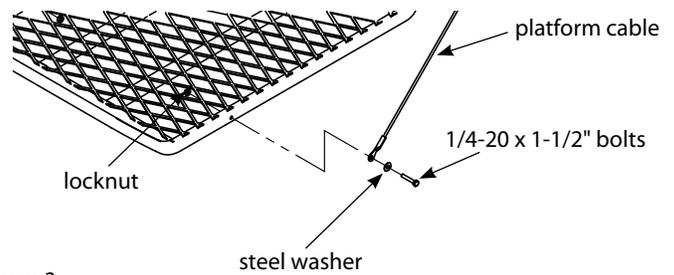

Figure 2
3. Bolt cables (48212) onto platform (CXR21) using the (2) provided 1/4-20 x 1-1/2" bolts, locknuts and steel washers. **SEE FIGURE 2. You must now tighten all nut & bolt assemblies. Be sure not to over tighten or crush tubing when tightening!**